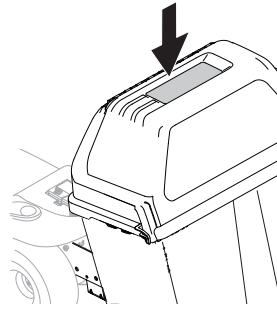

Figure 23
1. While mowing, periodically stop and check the viewing window on top of the grass catcher cover. See Figure 23.